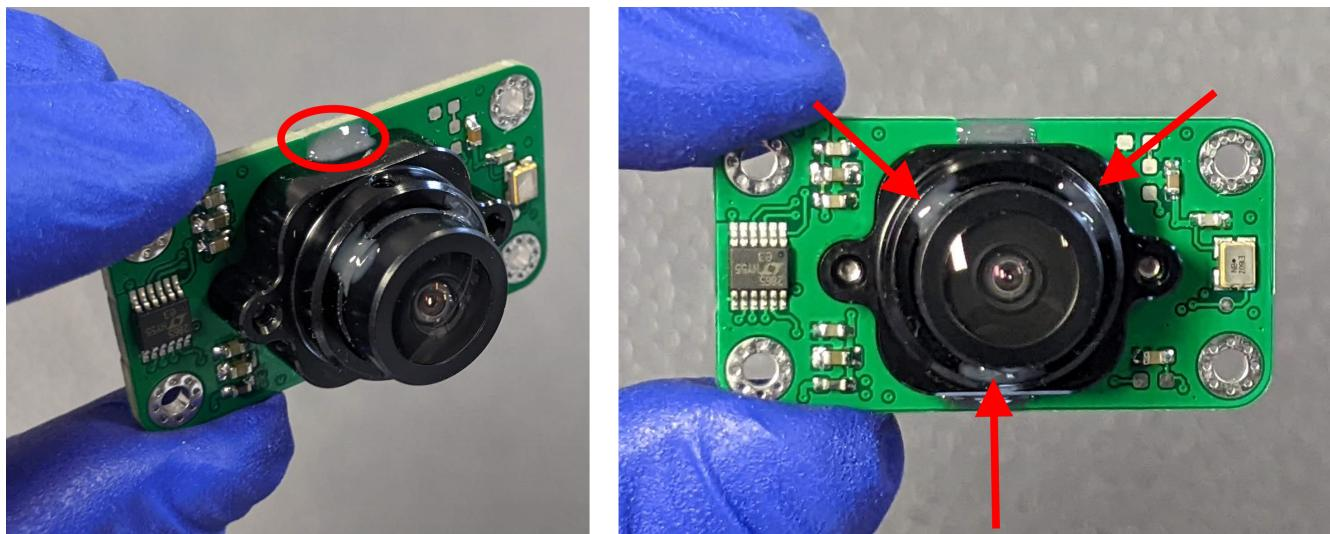

Figure 7: Staking of the lens and lens holder.
Focusing the lens is a manual process. Gently twist the lens by hand a few degrees between taking and downloading preview images. Once the image looks focused in a preview image, switch to ZOOM mode images. Be very careful not to screw the lens so deep into the lens holder that the lens hits the image sensor. Refer to Figure 7 for the approximate depth of the stock lens when focused at infinity.
3. Stake the lens mount as per Figure 7.
4. Once the lens is focused, place **three** blobs of epoxy around the perimeter of the lens to secure the focus (Figure 7). **Do not place epoxy around the full perimeter of the lens!**